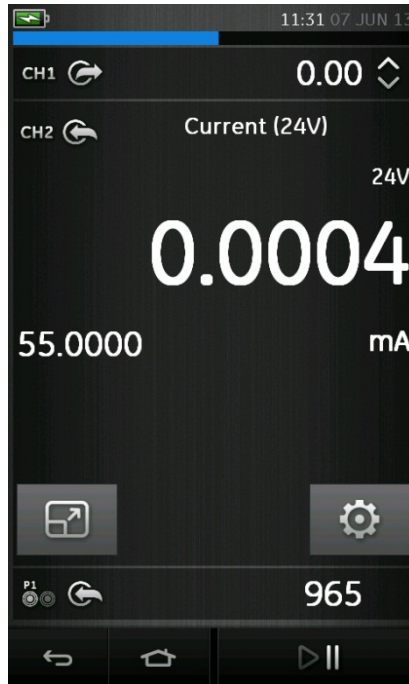

Figure 2-12 Calibrator Window - Expanded View
- Figure 2-12 displays an expanded view of the selected channel and minimizes the remaining channels.